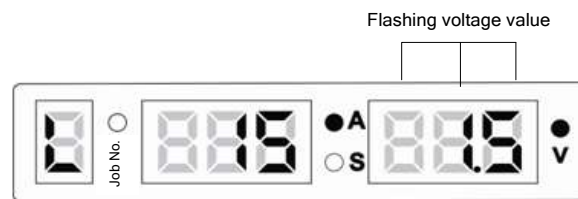

Figure 3-37 UI for locking the voltage adjustment range
5. On the UI for locking the voltage adjustment range, the right screen flashes. See Figure 3-37. Use the knob on the control panel of the welder to set the voltage adjustment range and press the **LOAD**  button. The welder enters the state where the welding parameter adjustment ranges are locked. The default range is ± 1.5 V.